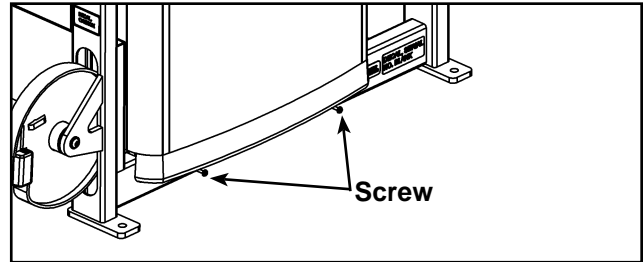

Figure 14
- Carefully place shroud back into position on the two bottom screws. See Figure 14.